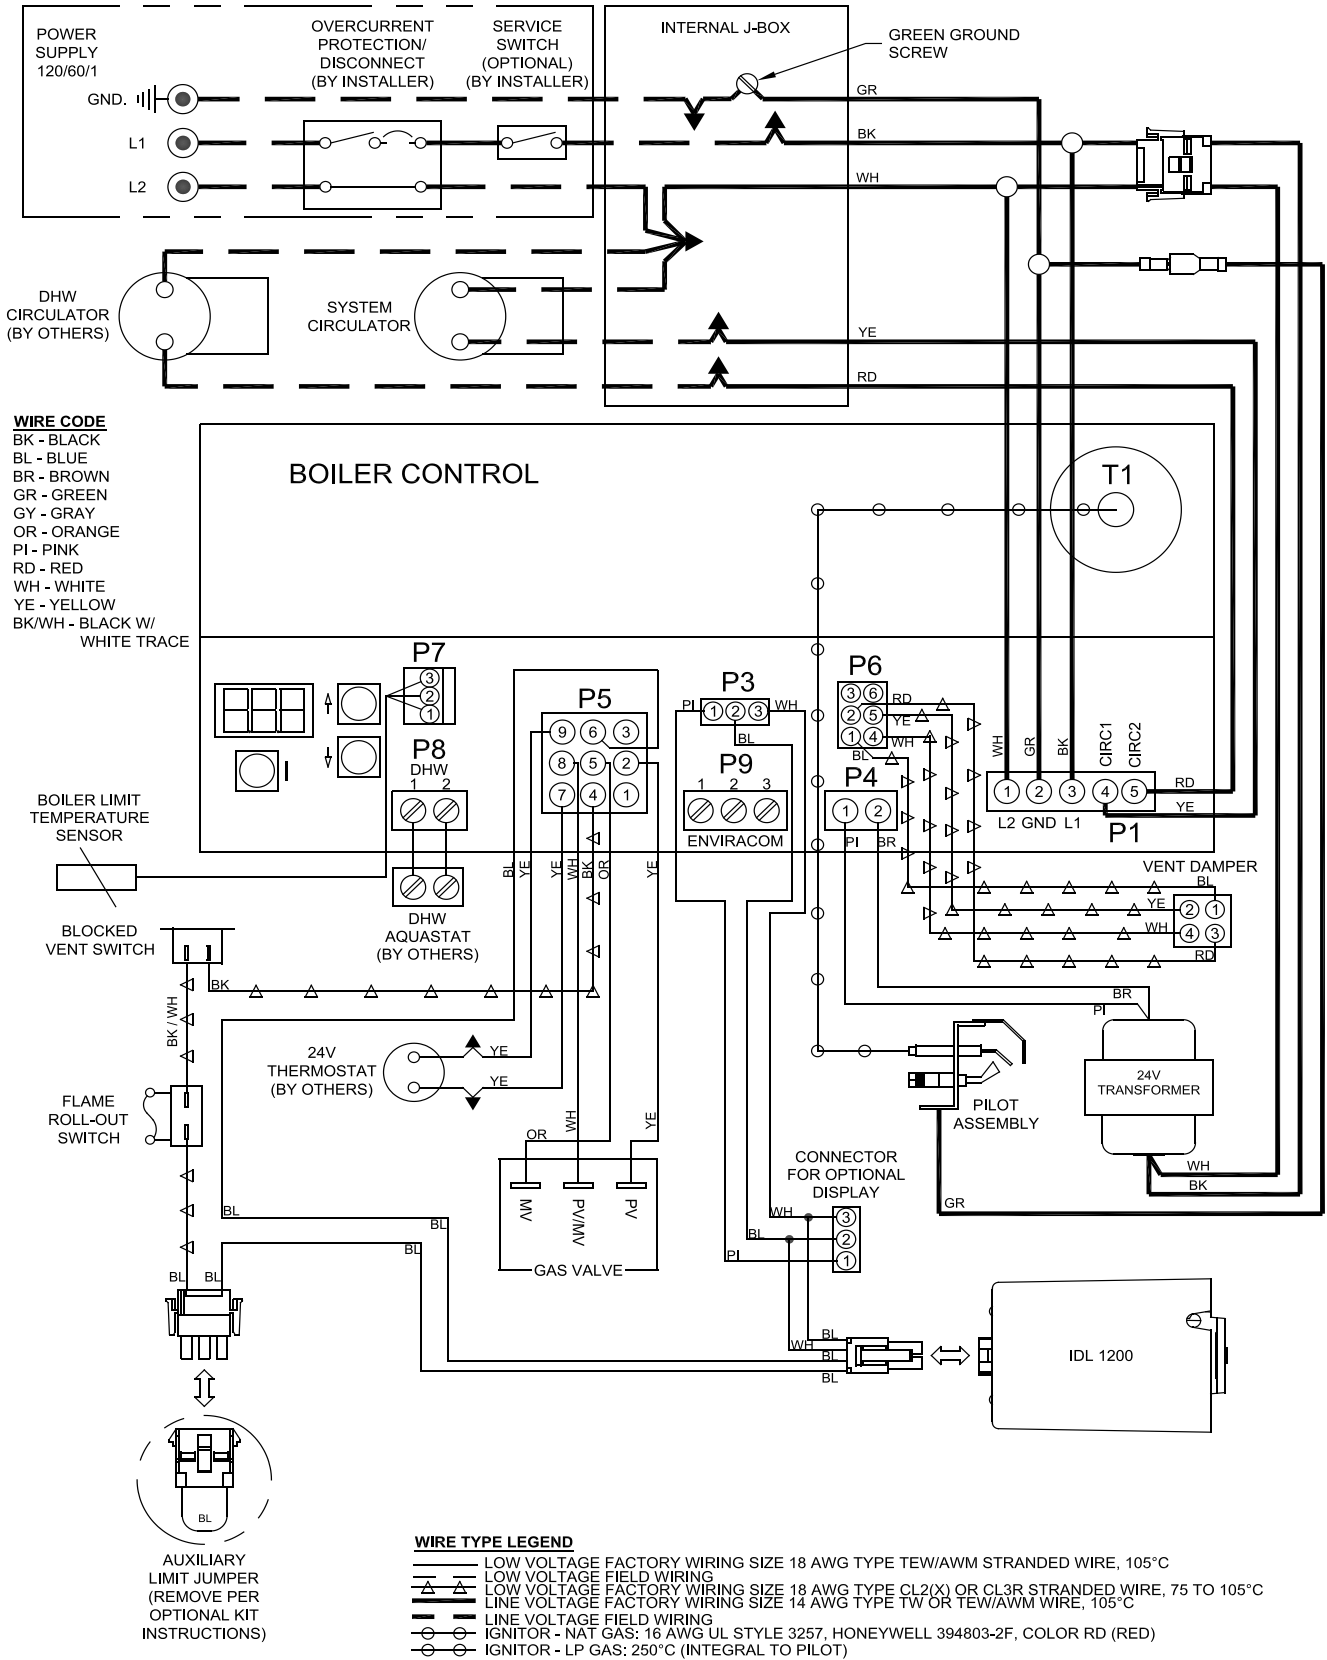

Figure 8-1: Wiring Connection Diagram
- C. Wire boiler. Boiler is rated for 120 VAC, 60 hertz, less than 12 Amperes. A separate electrical circuit must be run from the main electrical service with an over-current device/disconnect in the circuit. A service switch is recommended and may be required by some local jurisdictions. Connect to black and white wires and green ground screw. See Figures 8-1 and 8-2.